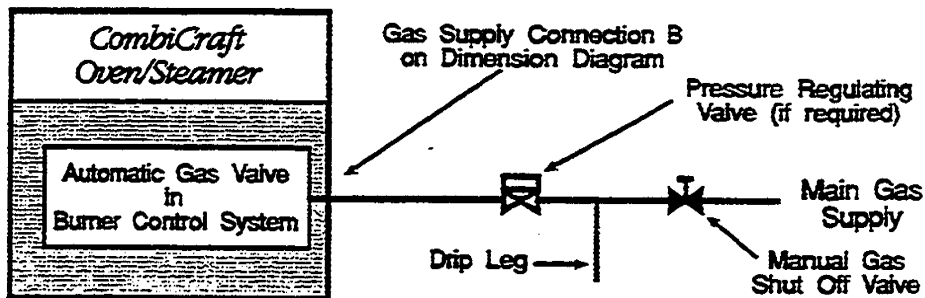

Figure 3-8. Recommended Gas Supply Line Layout
5. Refer Figure 3-8, Recommended Gas Supply Line Layout, and turn main manual gas valve to the closed position.